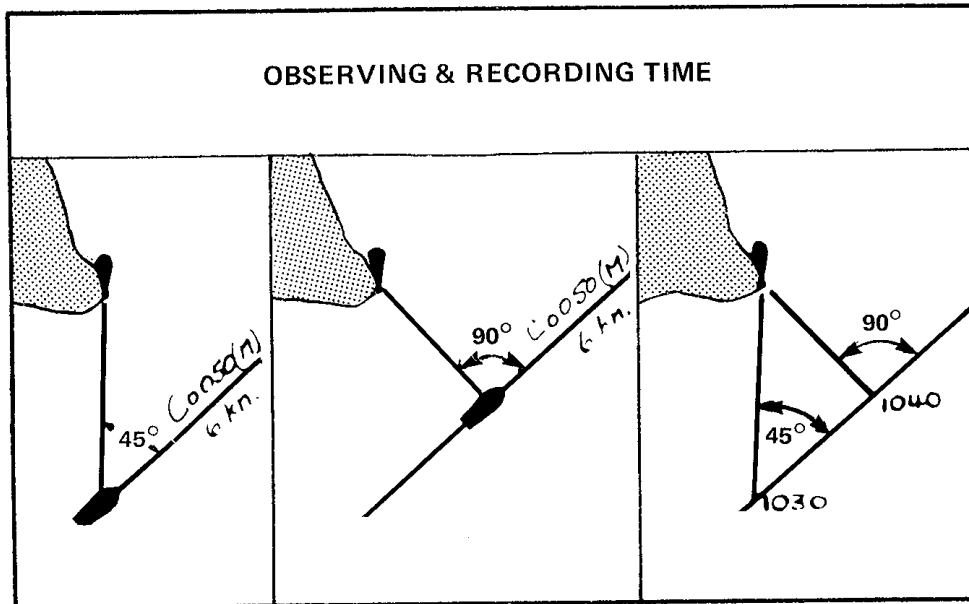
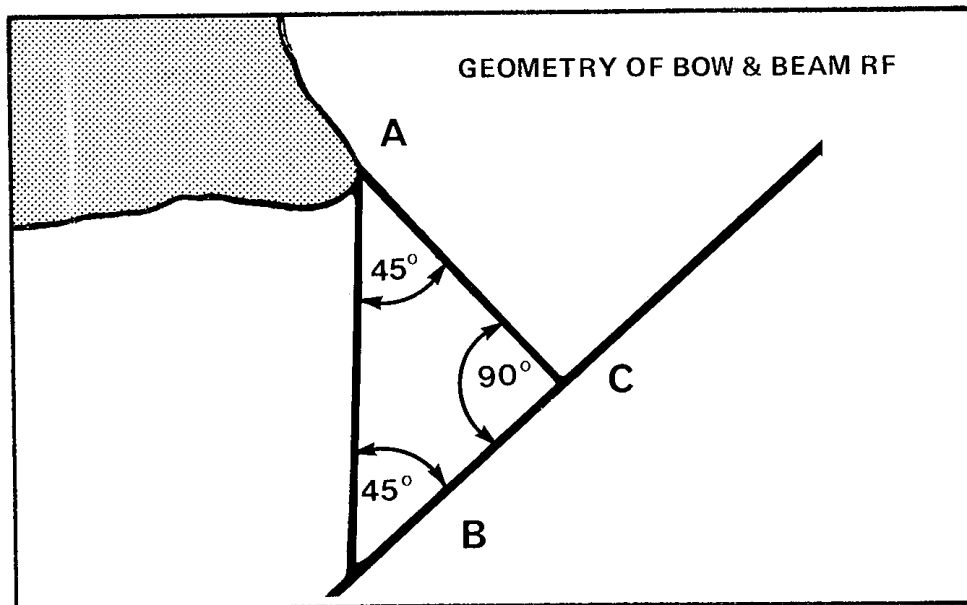
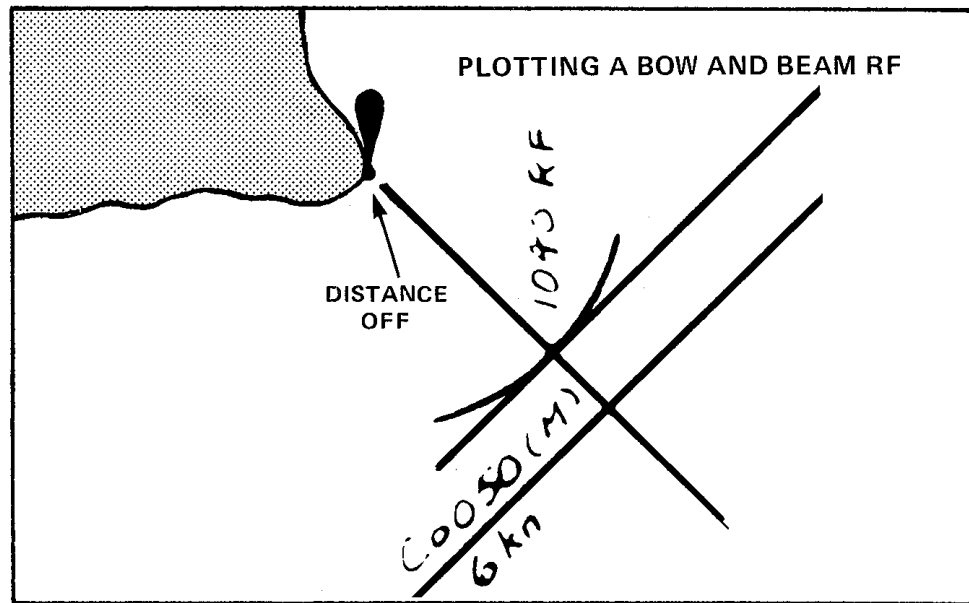

Figure 7-35 Observing and Recording Time
Figure 7-36 The Geometry of a Bow and Beam RF
Figure 7-37 Plotting a Bow and Beam RF
93. **Bearings** — A bearing, abbreviated to **bg**, is the horizontal direction of one terrestrial point from another. For present purposes it is the angle, measured clockwise, from magnetic north (000°) to the line of sight on the object being observed. In Figure 7-35, the reference direction is magnetic north, as established by the compass.
102. **Taking a Running Fix** — Approaching a prominent aid such as a headland, on a steady course and known speed, the pilot observes **the time** when the aid is **broad on the bow** (Figure 7.35(a)). Holding course and speed he waits until the object **comes abeam** (b) and again **notes the time**. The combined sequence appears in (c). Knowing his vessel’s speed, the pilot calculates the distance run between observations — a simple matter using the formula $d = st/60$. The **distance run between sights** is the **distance off at the time of the second sight**. The geometrical construction is a right-angled isosceles triangle, 45° and 90° : hence side AC in Figure 7-36 equals side BC, ie, distance off equals distance run. Setting his dividers at “distance off”, the pilot swings an arc, with centre on the aid. This arc defines his **distance off** and his position must lie thereon. As he knows that **the aid is abeam**, a straight line **through the aid and at right angles to his course must also be a position line**. He therefore draws that line, and **where it intersects the arc is where he must be** (Figure 7-37). Alternatively he moves his course line, using the parallel rule, to become tangent to the arc.